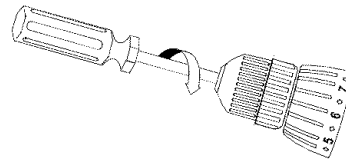

Fig. 11
6. Remove the chuck screw using a #2 Phillips screwdriver (see Fig. 11).